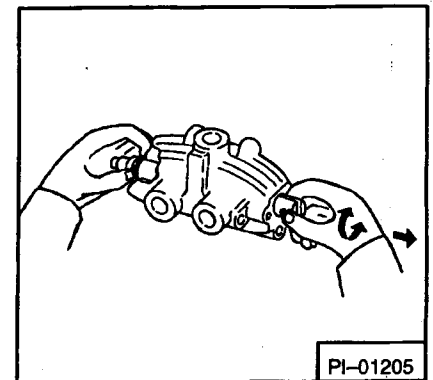

**Fig. 4-23** Variable Speed Valve Parts
12. Install a new front seal, keep the U cup side of the seal toward valve body (Fig. 4-23).
1. Remove four bolts from valve spring cap (Fig. 4-23, Item 1).
2. Remove screw, lock washer, flat washer, spring and stop collar from end of spool (Fig. 4-23, Items 2, 3, 4, 5 & 6).
12. Install collar, spring, washers and screw. Tighten screw (Fig. 4-23, Items 2, 3, 4, 5 & 6).
14. Install cap and four bolts (Fig. 4-23, Item 1).